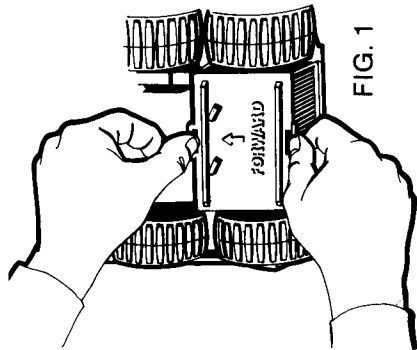

FIG. 1
2. To insert the four "D" cell batteries, locate the battery box on the bottom of BIG TRAK. See Fig. 1.
3. Press both locking tabs outward as shown in Fig. 1 to release the battery cover. Lift off the cover to expose the battery compartment.